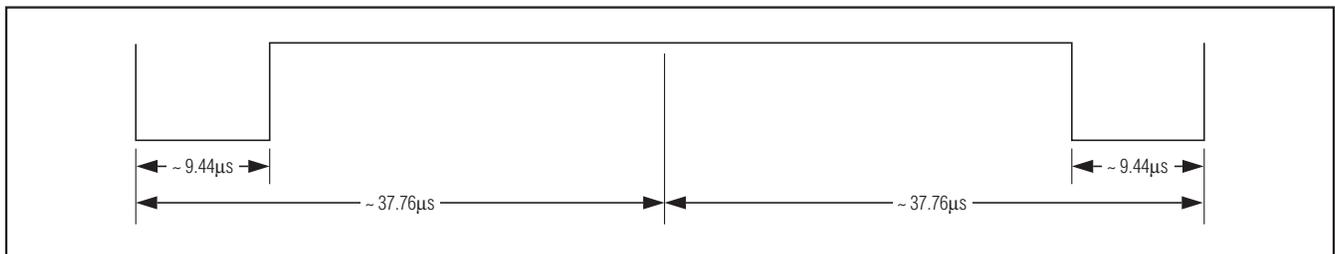
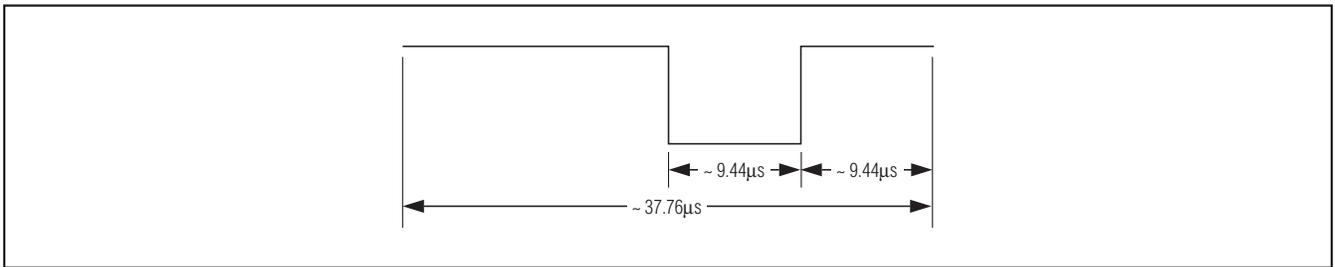

Figure 9. Downlink SOF for "1 Out of 256" Coding (Carrier Not Shown)
Figure 11. Downlink EOF (Identical for Both Coding Schemes, Carrier Not Shown)
75.52 $\mu$ s conveys the value of the 2 bits. A byte is transmitted as a concatenation of four 2-bit transmissions, with the least significant 2 bits of the byte being transmitted first. The transmission of the SOF pattern takes the same time as transmitting 2 bits in Scheme B. The SOF pattern has two modulation notches, making it distinct from any 2-bit pattern. The position of the second notch tells whether the frame uses the “1 out of 256” or “1 out of 4” coding scheme (Figures 9 and 10, respectively). The transmission of the EOF pattern takes 37.76 $\mu$ s; the EOF is the same for both coding schemes and has one modulation notch (Figure 11).